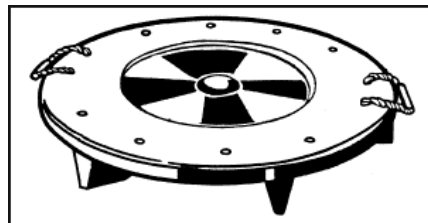

Figure 6-7. Baseplate.
d. **Baseplate and Rotator Assemblies.** The baseplate assembly (Figure 6-7) is about 38 inches (96.52 centimeters) in diameter. A recess in the center receives the bottom insert of the rotator assembly. The lower surface contains six ribs to increase the area in contact with the ground. Each rib has a depth of about 6 1/2 inches (16.51 centimeters).